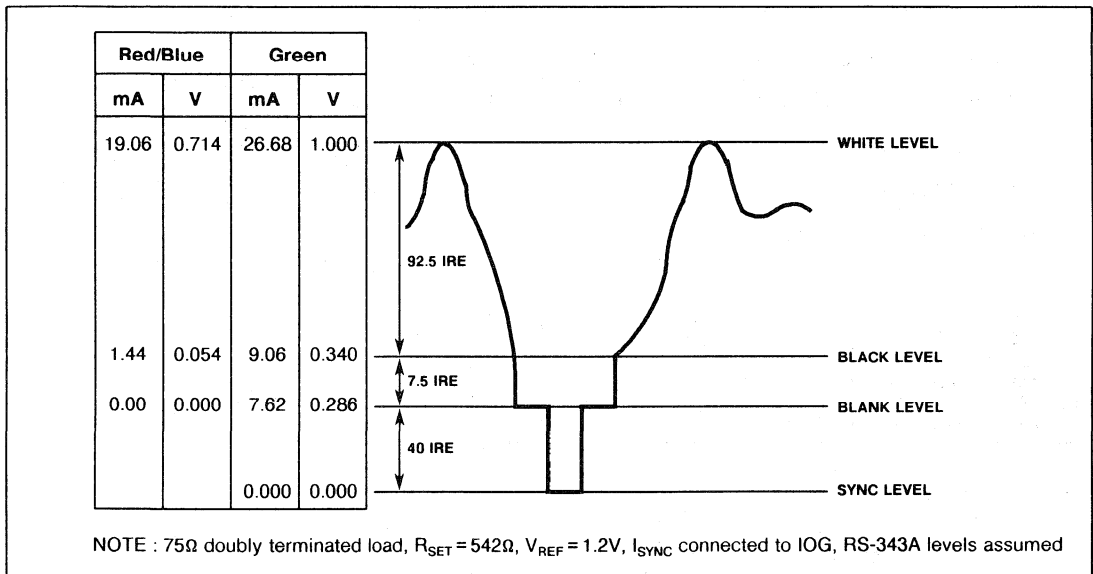

Fig.3 Composite video output waveform
SYNC and BLANK are latched on the rising edge of the clock to maintain synchronisation with the colour data. These inputs add appropriately weighted currents to the analog outputs, producing the specific output levels required for video applications as shown in Fig. 3. Table 1 details how the SYNC, BLANK and REF WHITE inputs modify the output levels.
FS ADJUST	Full scale adjust control. A resistor (R SET ) connected between this pin and AGND controls the magnitude of the full video signal (Fig. 3). The current flowing in the R SET resistor is equal to 32 LSBs. Note that the IRE relationships in Fig. 3 are maintained, regardless of the full scale output current. The relationship between R SET and the full scale current on IOG (assuming I SYNC is connected to IOG) is: $\text{IOG (mA)} = 12082 \times \frac{V_{\text{REF}} \text{ (V)}}{R_{\text{SET}} \text{ (}\Omega\text{)}} \approx 387 \text{ LSBs}$ The full scale output current on IOR and IOB for a given R SET is defined as: $\text{IOR, IOB (mA)} = 8624 \times \frac{V_{\text{REF}} \text{ (V)}}{R_{\text{SET}} \text{ (}\Omega\text{)}} \approx 276 \text{ LSBs}$